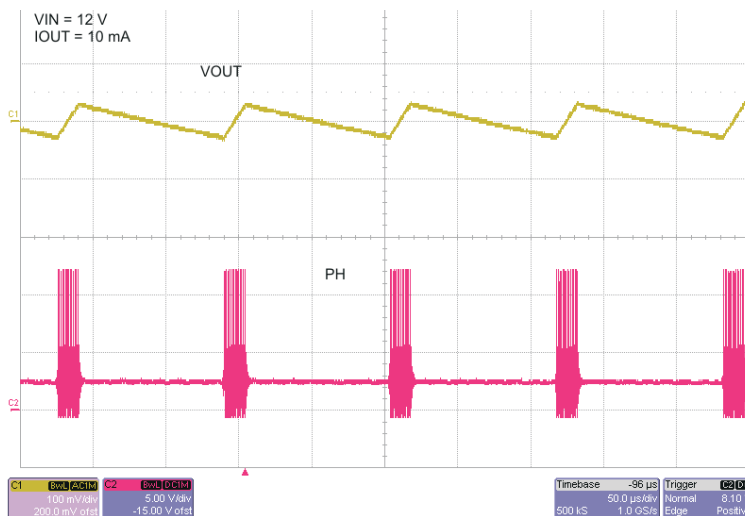

Figure 2-11. TPS54232EVM-415 Eco-mode Operation
Figure 2-11 shows Eco-mode operation, channel 1(C1) shows the output voltage while channel 2(C2) shows the switching node (PH).